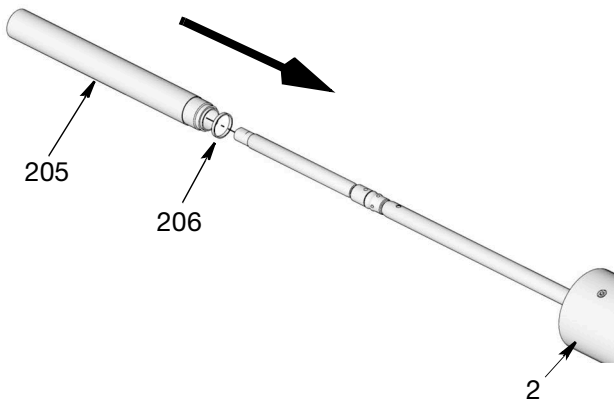

FIG. 41
10. Apply a thin layer of grease around gasket (206). Install gasket over end of spacer cylinder (205). Slide cylinder over rod assembly as shown in FIG. 41. Thread end of cylinder into bottom of pump adapter (2). Use a pipe wrench to turn cylinder until tightened securely. Torque to 45 - 55 ft lbs (61-74 N.m).